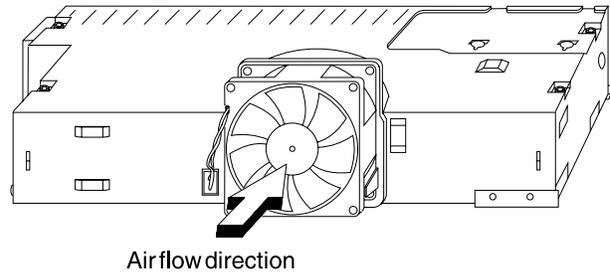

Figure 3-13. Cooling Fan
5. Remove the fan from the plenum by prying the fan release tabs on the bottom of the plenum away from the fan housing until the fan can be removed. See Figure 3-13.